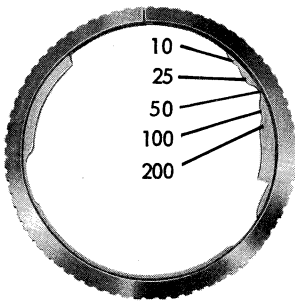
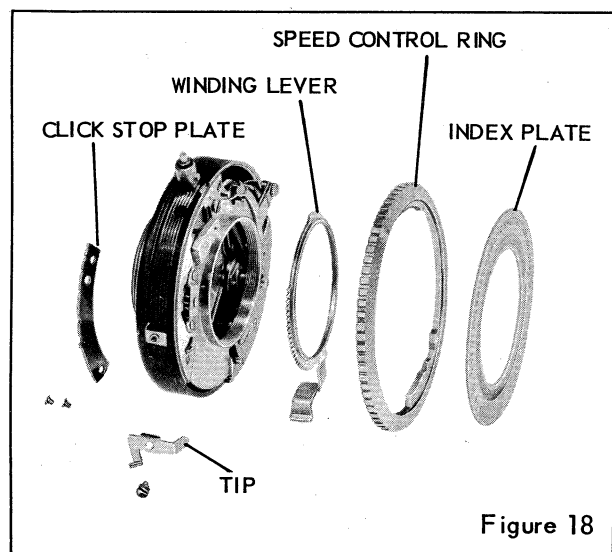

Figure 17
Figure 18
| | Excessive retard sector travel. | Swedge the SPEED CONTROL RING, figure 18, at the area controlling the slow speed. (See figure 17.) |
| | Insufficient retard sector travel. | File the speed ring at the area controlling the fast speed. (See figure 17.) |
2. Diaphragm pointer TIP, figure 18.